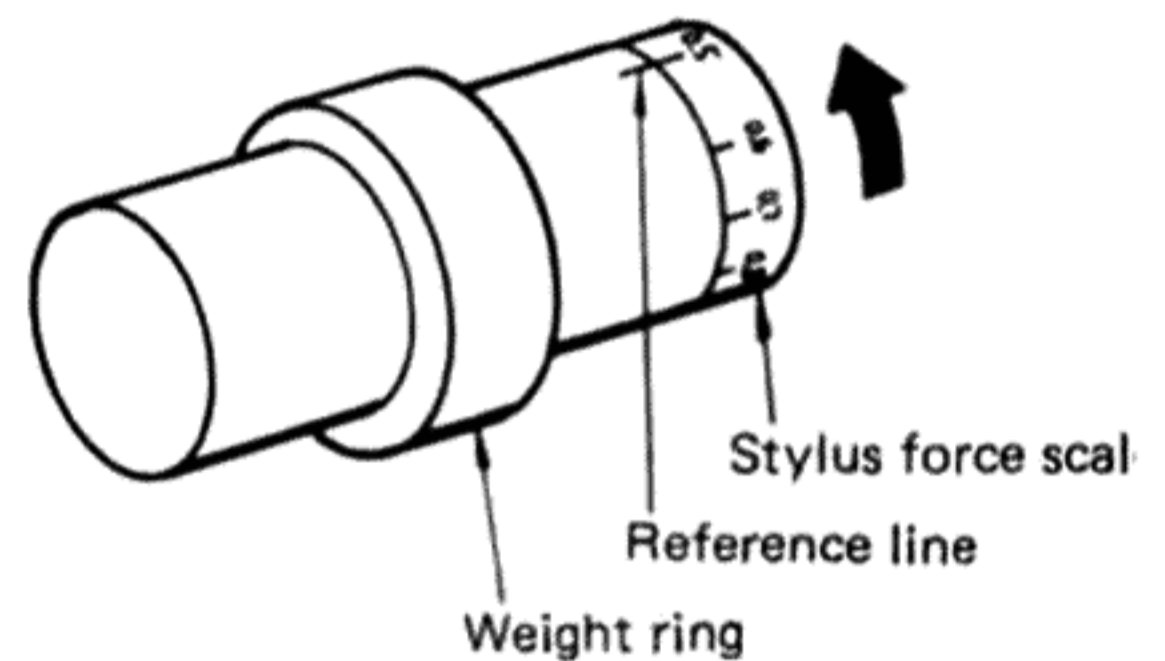

Fig. 14
- (1) Set the anti-skating knob to "0". The stylus force scale rotates three turns. Rotate the stylus force scale in the reverse direction of the arrow in Fig. 14 and set it to the last alignable "0".
- (3) Rotate the stylus force scale knob in the direction of the arrow in Fig. 14, setting the reference line on the arm to the level corresponding to the optimum stylus force of the cartridge. One full rotation of the stylus force scale is equal to 1 g. Its limit is three rotations or 3 g of stylus force. For example, to set the stylus force to 2.5 g, rotate the stylus force scale twice and one-half turn move to bring 0.5 to the reference line.